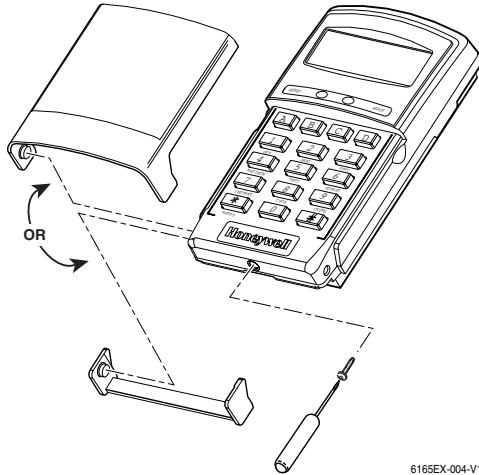

Figure 3 – Securing the Case (shown with cover removed)
7. Test the tamper function and adjust the plunger (if necessary) before securing the keypad to its case back with the screw (refer to Figure 3).